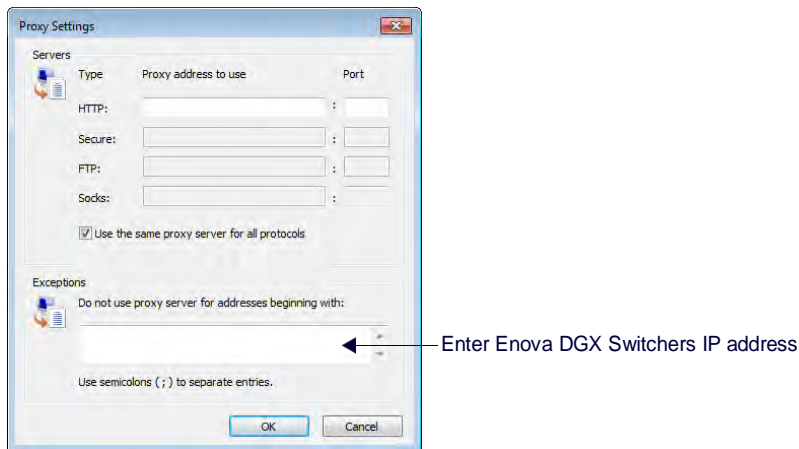

FIG. 143 Proxy Settings dialog
3. Click **Advanced**. The *Proxy Settings* dialog opens (FIG. 143):